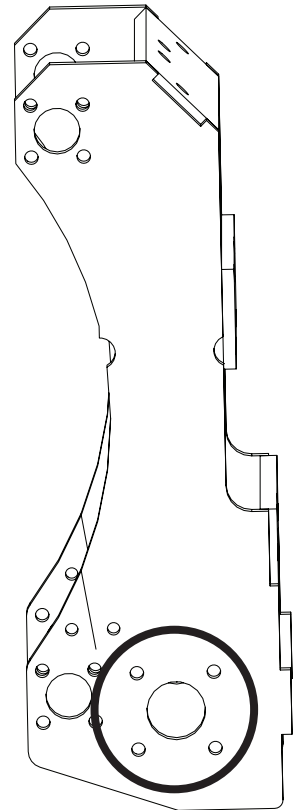

Figure 6
1. Residual Loctite® must be removed from specific bolt holes. On each side of the grabber carriage assembly, at the location where the motors attach to the grabber assembly, clean the four (4) bolt holes and the large hole for the motor shaft.
- a. Start by cleaning inside the bolt holes with a tube brush on an electric drill (see Figure 6 for location of holes). Clean the bolt holes on **both sides of the grabber assembly** where the motors are bolted onto the grabber assembly. The residue from the Loctite® is hard and is a contaminate for the installation of the new hardware if it is left in place. The holes are clean when all the Loctite® is removed; do not grind the holes.
- b. Clean the large hole for the motor shaft (see Figure 6) with a tube brush on an electric drill. Clean both of the large holes on **both sides of the grabber assembly**. The holes are clean when all the Loctite® is removed; do not grind the holes.
8. Insert the motorshaft support bearing into the large motor shaft hole on the grabber carriage assembly (the hole you already prepped) (see Figure 6). Use the bearing retainer to assist in locating the bearing position. Do this on both motor shaft holes — one bearing per large hole.